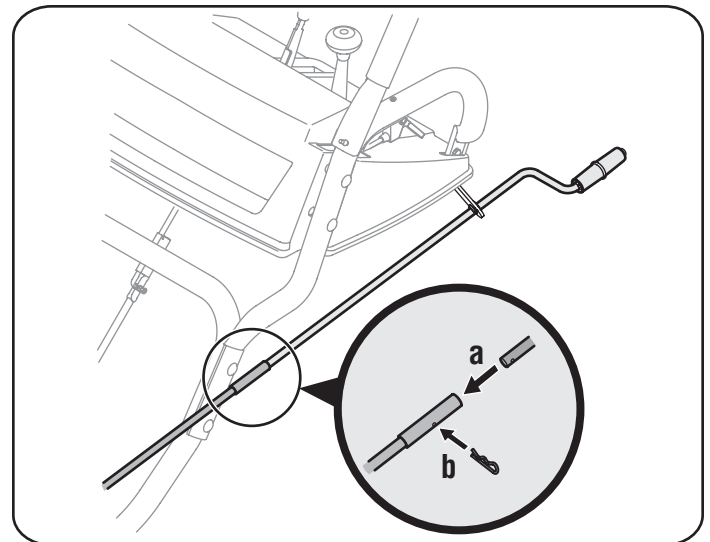

Figure 3
- b. Remove the internal cotter pin from the upper chute crank. Slide the upper chute crank into the sleeve on the lower chute crank. See Fig. 3.
- c. Align the hole in the upper chute crank with the hole in the sleeve (If necessary, use a pair of pliers to assist in aligning holes). Insert the internal cotter pin through the holes to secure the chute crank. See Fig. 3.